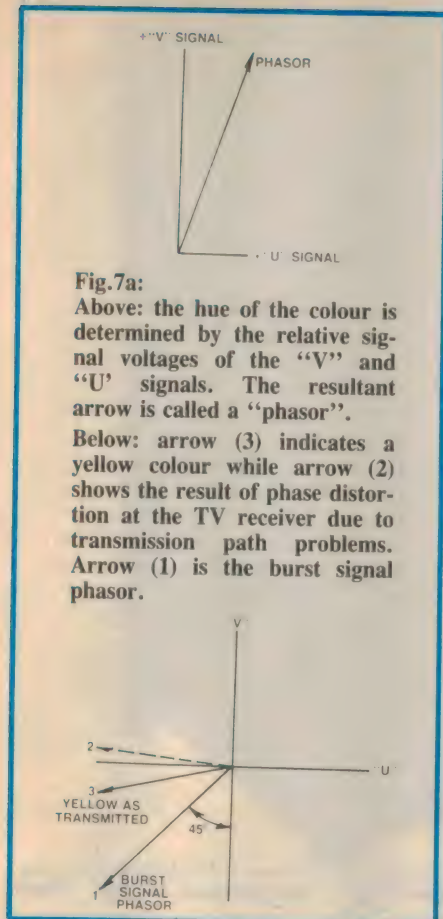

Fig. 7a:
Above: for the next line, the "V" signal has been switched by 180 degrees. Compare the received phase distorted signal (2) with (2) in Fig. 7a and note that the averaged resultant gives the correct colour.
the colour signal will be changed, and incorrect colours will be displayed. This occurs in the NTSC system (Fig. 7a).
The burst signal is referred to as the "PAL swinging burst" because its phase changes with each transmitted line of picture information by 90 degrees, keeping it in step with the transmitted "V" signal (Fig. 7a and 7b). Notice that the burst vector on the first line is shown 45 degrees above the "U" axis line, and on the next line 45 degrees below the "U" axis.